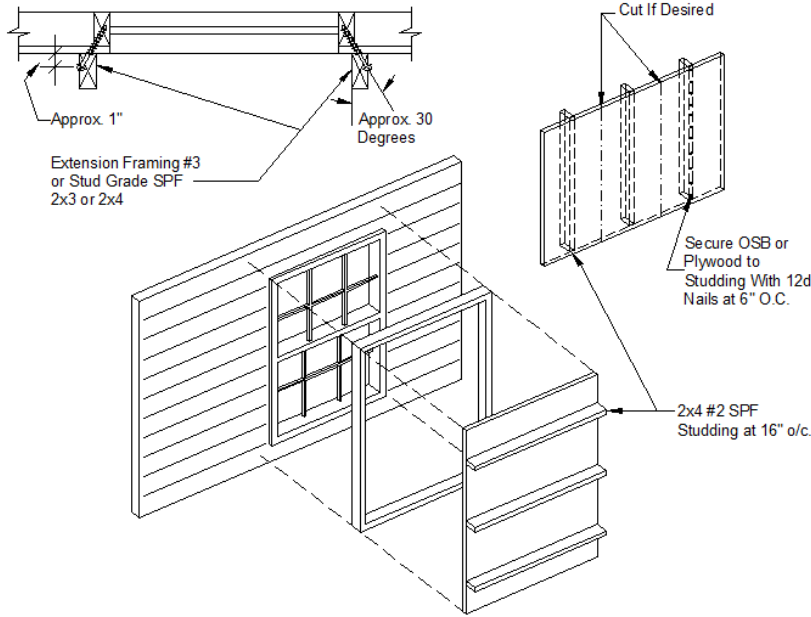

Figure 106. Wind protection shutter construction
If desired, prepare temporary protective window covers for use during severe wind storms and hurricanes according to **Figure 106**, **Table 34**, and the procedure below.
- 2.** Assemble shutter panels as shown in **Figure 106**.